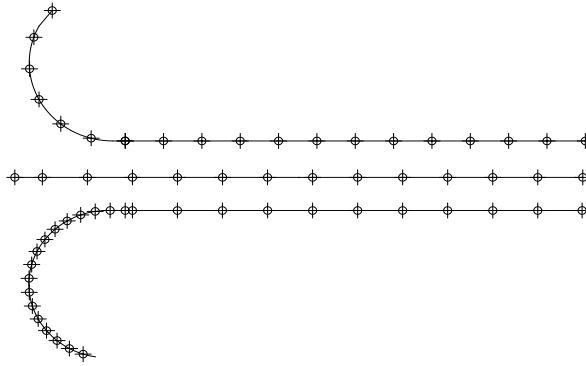

Figure 2-58 Points created along the arc object below the alignment
23. Repeat steps 21 and 22 till you are prompted to select an arc again. Thus, Civil 3D creates the point first by measuring the arc object by identifying the start and end stations of the arc and then divides the arc at specified intervals. Points are created at the end of each interval, including the start and end stations of the arc, refer to Figure 2-58.